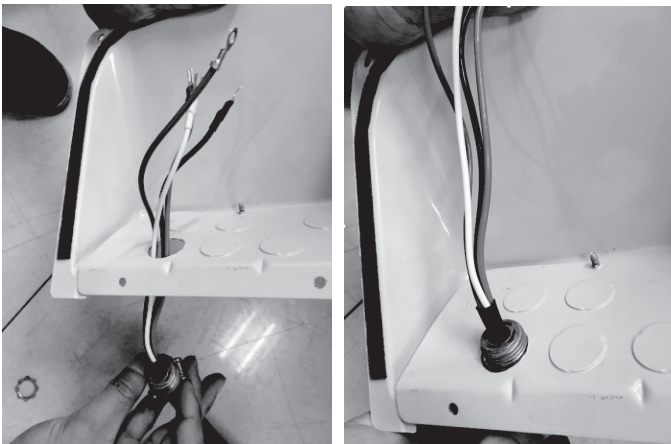

**Fig. 8.7**
1. Remove the screws from the electrical wiring cover from the outdoor condenser, as shown in the image below and **Fig. 8.7**, and remove it.
**ALL WIRING MUST BE INSTALLED STRICTLY IN ACCORDANCE WITH THE WIRING DIAGRAM LOCATED ON THE INSIDE OF THE OUTDOOR CONDENSER WIRE COVER AS SHOWN IN FIG. 8.7.**